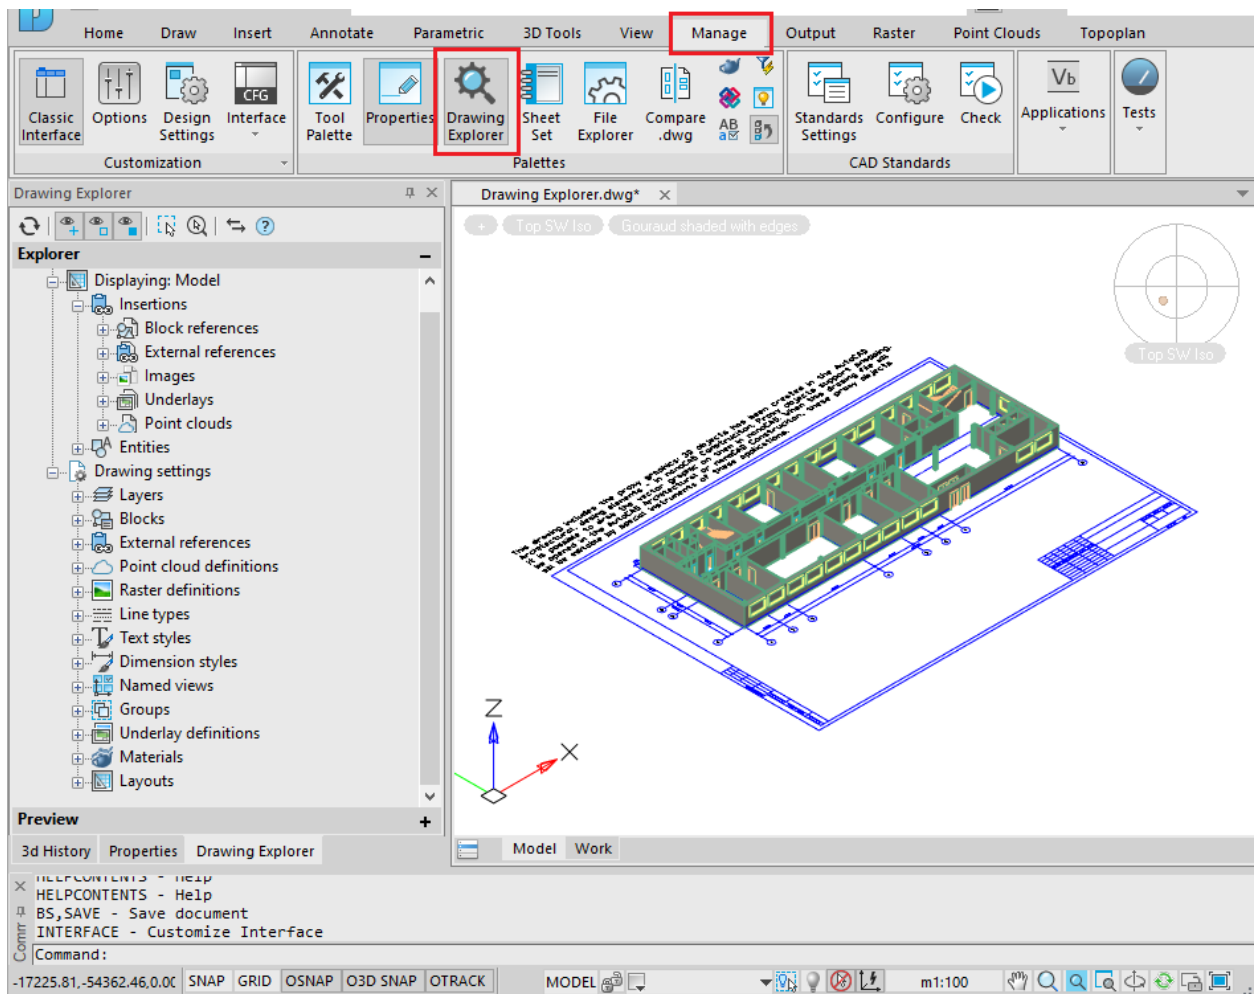

Fig. 53. Drawing Explorer
1. Open the Manage ribbon tab, click the Drawing Explorer (fig. 53):